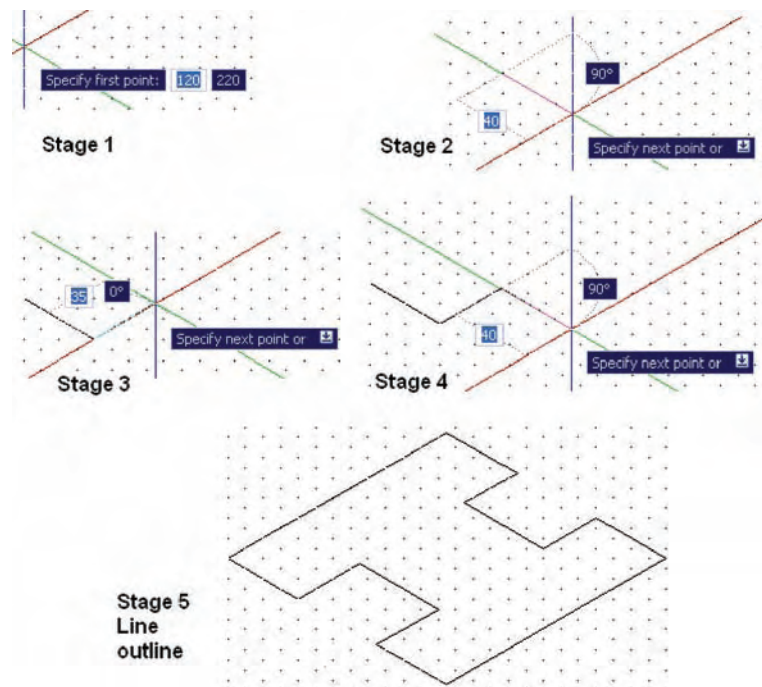

Fig. 12.35 Example – constructing the **Line** outline
1. Using the line tool construct the outline shown in Fig. 12.35.
The stages of producing the extrusion are shown in Figs 12.35 and 12.36. The resulting 3D model is a surface model.